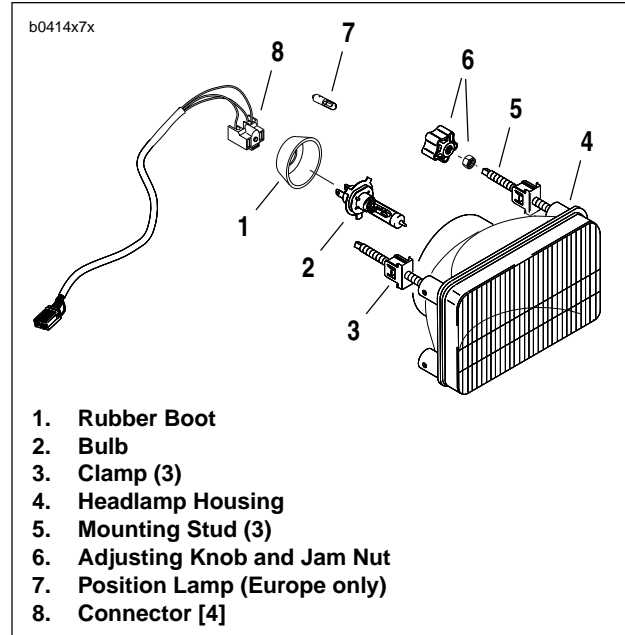

Figure 7-36. Headlamp Assembly
2. See Figure 7-36. Remove headlamp from front fairing mount.
- a. Hold jam nut (6) with a wrench. Twist adjusting knob counterclockwise to remove. Remove jam nut.
- b. Compress clamps (3) on mounting studs (5). Pull headlamp assembly forward when clamps slide through front fairing mount.
3. Detach headlamp connector (8) [4].
4. Remove rubber boot (1).
2. See Figure 7-36. Install rubber boot (1).
3. Attach headlamp bulb connector (8) [4].